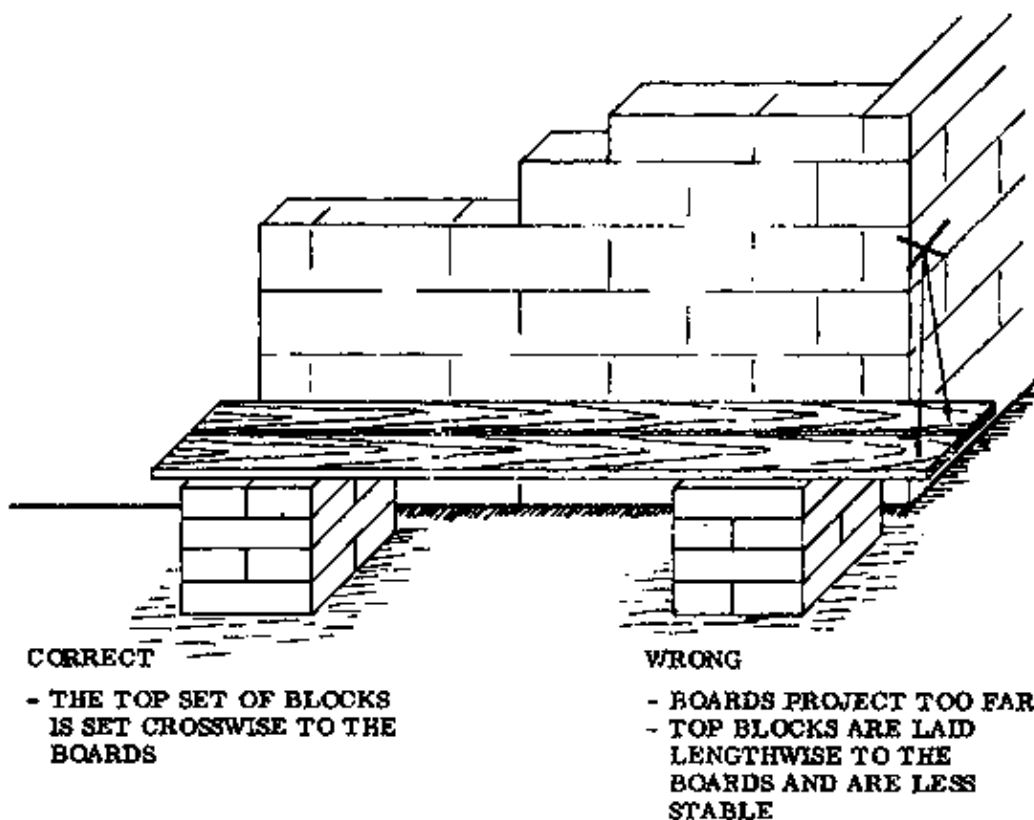

Fig. 1
– **BLOCK SCAFFOLD:** This is the lowest and simplest working scaffold. It is used to raise the worker a bit higher to make it easier to build the wall up to the actual scaffold height of 1,5 m. Set the sandcrete blocks on solid, level ground and lay one or two boards across them (Fig. 1).